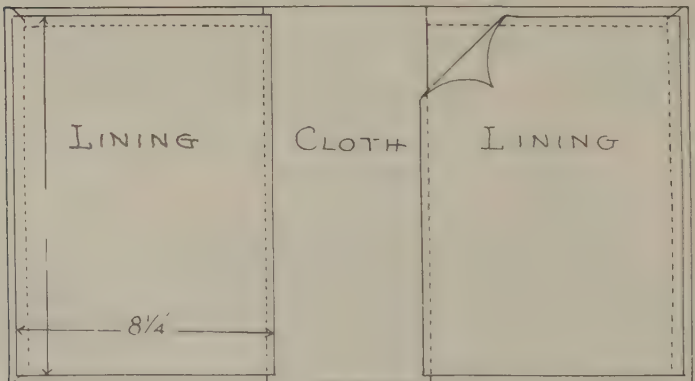

FIG. 101 - DIAGRAM OF POSITION AND MOUNTING LINING-OUT PAPERS
3. Glue-off papers one after another and mount on inside of cover-boards. (Fig. 101.)